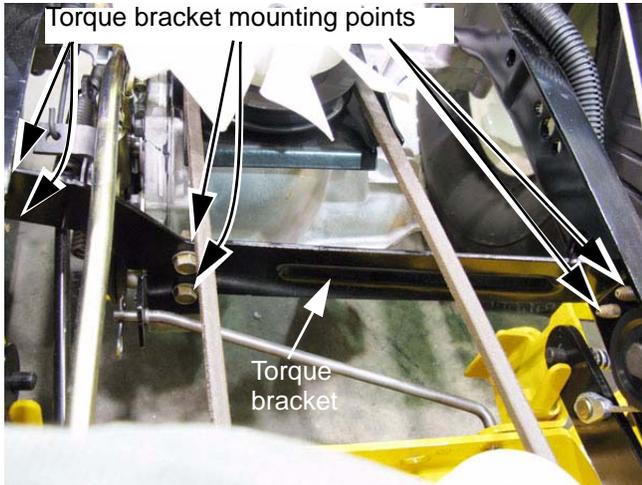

Figure 5.12
- 8b. Check the torque bracket and the axle mounting points at the frame. See Figure 5.12.